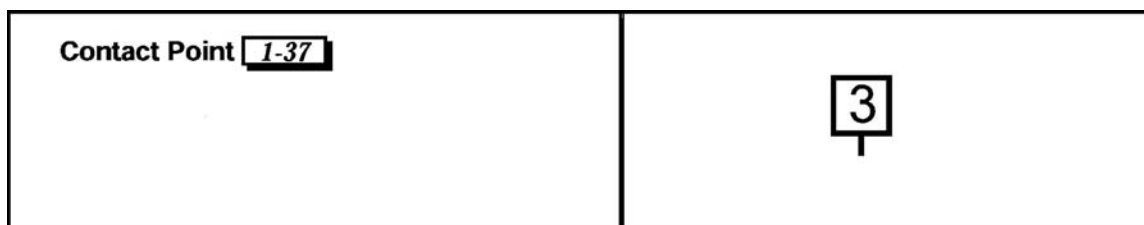

Figure 25. Contact point.
- (8) Contact points. Contact points, shown graphically by squares with a staff extending from the bottom center, are designated at the units to make physical contact. Contact points may also be used to delineate areas of responsibility in specific localities when boundaries are obviously unsuitable, such as between elements of a flank guard (Figure 25).